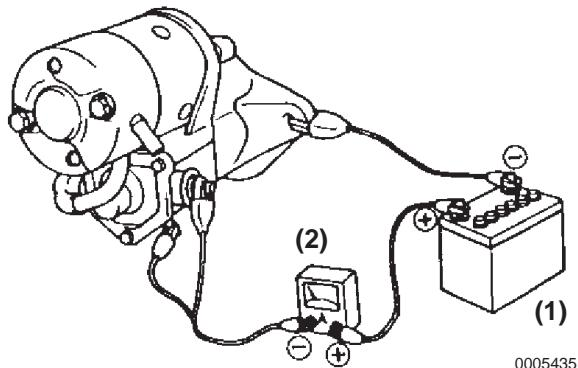

Figure 10-47
1. Connect the battery **(Figure 10-47, (1))** and ammeter **(Figure 10-47, (2))** to the starter.